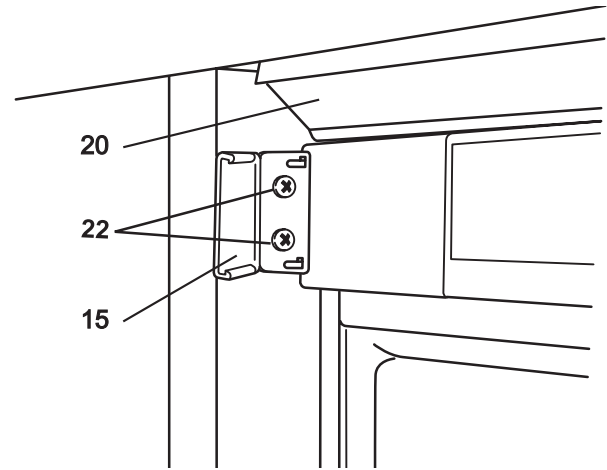

Figure 24
11. Install top bracket (**Fig. 24, 15**) to kitchen cabinet using two screws (**Fig. 24, 22**). Snap cover into place.
12. Align the equalizer trim (**Fig. 24, 20**) so it is *parallel* with the bottom edge of the top wall of the kitchen cabinet (it must not project beyond this edge).